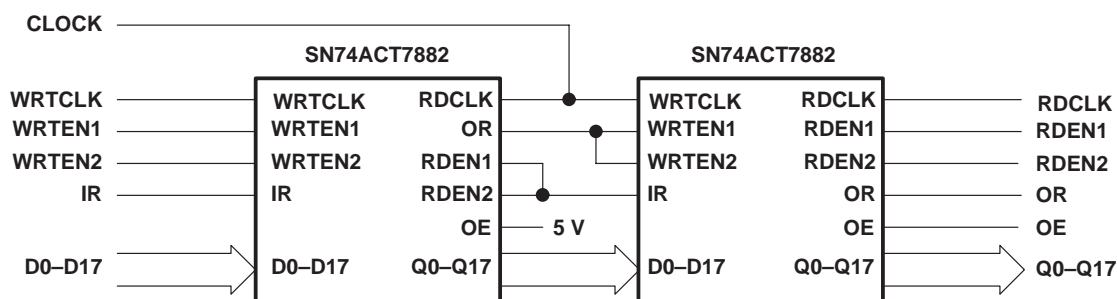

Figure 8. Word-Depth Expansion: 4096×18 Bits
The SN74ACT7882 is expandable in both word width and word depth. Word-depth expansion is accomplished by connecting the devices in series such that data flows through each device in the chain. Figure 8 shows two SN74ACT7882 devices configured for depth expansion. The common clock between the devices can be tied to either the write clock (WRTCLK) of the first device or the read clock (RDCLK) of the last device. The output-ready (OR) flag of the previous device and the input-ready (IR) flag of the next device maintain data flow to the last device in the chain whenever space is available.